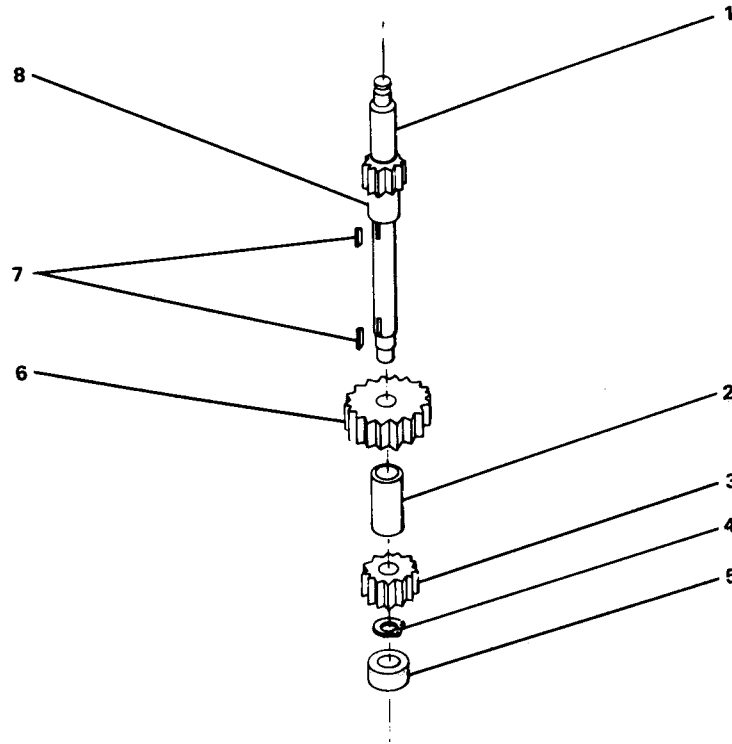

FIGURE 3-66. Repair Intermediate Shaft Assembly.
- g. Install drop ring (15).
- h. Install shouldered shaft (13, Sheet 2) and expansion plug (12).
- i. Install preformed packing (10) and bushing (11).
- j. Install hub (9) and special screw (6).
- k. Install encased plain seal (8) and cap (7).
- l. Install preformed packing (2, Sheet 1) and shouldered cam and gear shaft (1) into housing (3).
- m. Install bearing cover (5, Sheet 2) and attach with machine screws (4).
- n. Refer to paragraph 2-58 to install internal components in mechanical transmission housing (3).
**3-64. Repair Intermediate Shaft Assembly. (Figure 3-66)**